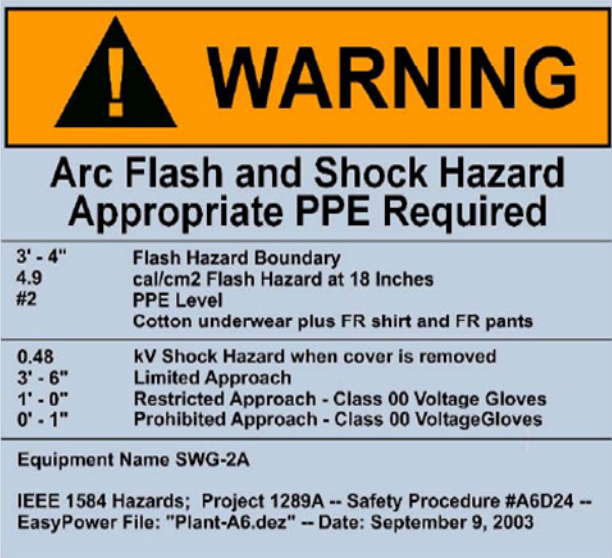

Figure 1
- A. Arc flash warning labels printed in color on thermally bonded adhesive backed, UV- and weather-resistant labels. An example label is located following end of section in Figure 1.
- 1. Figure 1: Example Arc Flash Label.